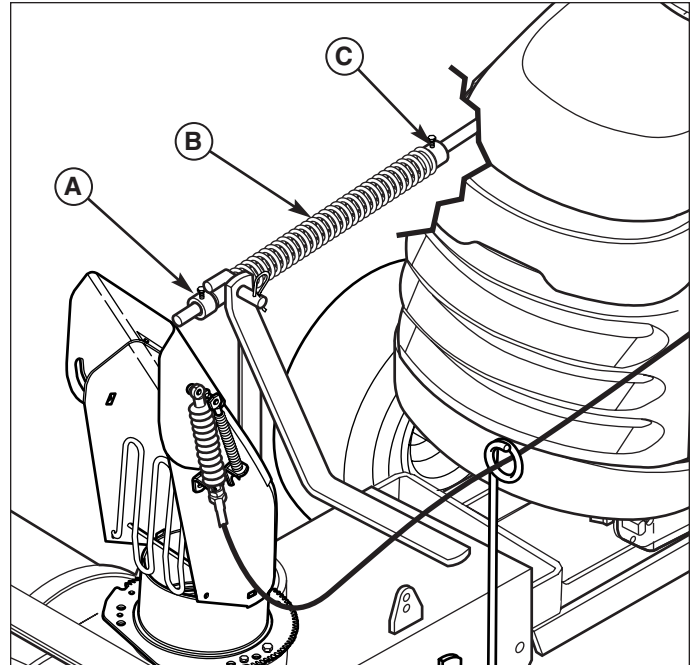

Figure 9. Adjusting Lift Rod
2. Lower the snowthrower and adjust the front set collar (A, Figure 9) to achieve the correct lift height.
2. Release the rear set collar (C, Figure 9).
3. Slide the set collar (C) forward until it is slightly compressing the spring. Tighten the set collar screw. Do not over-compress the lift rod spring.